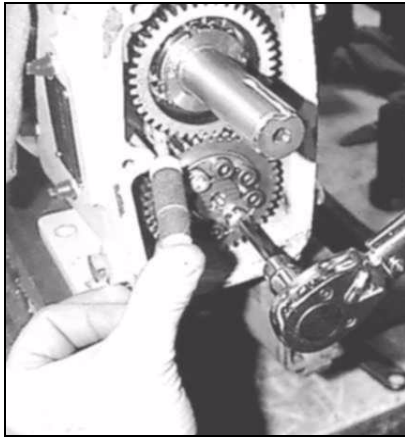

Figure 38 - Remove Gear and Locking Assembly
- Loosen the locking screw or screws on the locking assembly and tap them lightly with a mallet (or use thread jacking holes) to loosen the gear. Remove the gear and locking assembly (Figure 38).